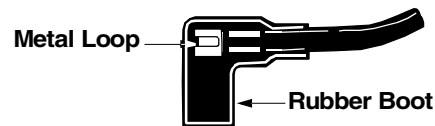

Figure 5
- Attach spark plug wire to spark plug. Make certain the metal loop on end of the spark plug wire (inside the boot) is fastened securely over the metal tip on the spark plug. See Figure 5.